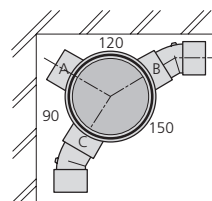

Fig.29c Corner layout
- Use bosses **C** and **B** for corner situations (two waste pipes approaching at 90°) (Fig.29c)